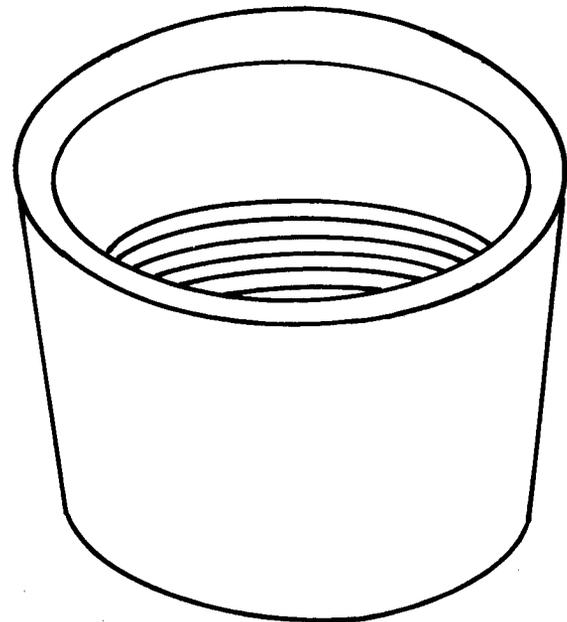

Figure 9-11. Drive shoe
(5) Drive Shoe. Always attach a drive shoe (Figure 9-11) to the lower end of the pipe to prevent the pipe from crumpling while being driven. A drive shoe is threaded to fit the pipe or casing. The inside diameter of the shoe below the shoulder is the same as the inside diameter of the pipe. A drive shoe is forged of high-carbon steel, without welds, and is hardened at the cutting edge to withstand hard driving. Screw the drive shoe tightly to butt the inside shoulder against the end of the pipe.